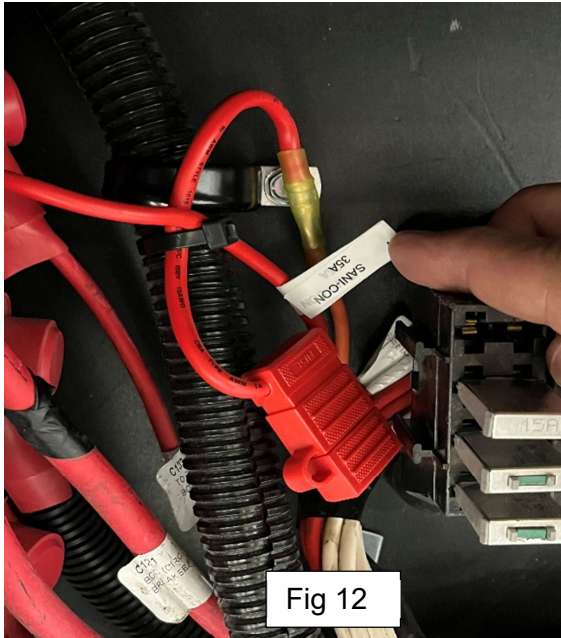

Fig 12
16. The connectors are heat shrink type connectors. Safely apply a heat source to form and seal each end of the connector. See Fig 12 **Warning: DO NOT DAMAGE THE WIRES OR SURROUNDING AREAS WITH THE HEAT SOURCE.**
25. Secure the inline fuse holder with a wire tie as shown below in Fig. 12.